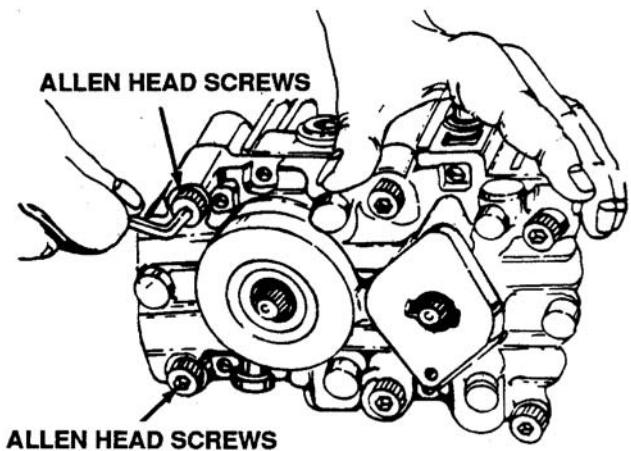

Figure 6-12. Location of Allen Head Screws
- a. Remove the allen head screws. See Figure 6-12.